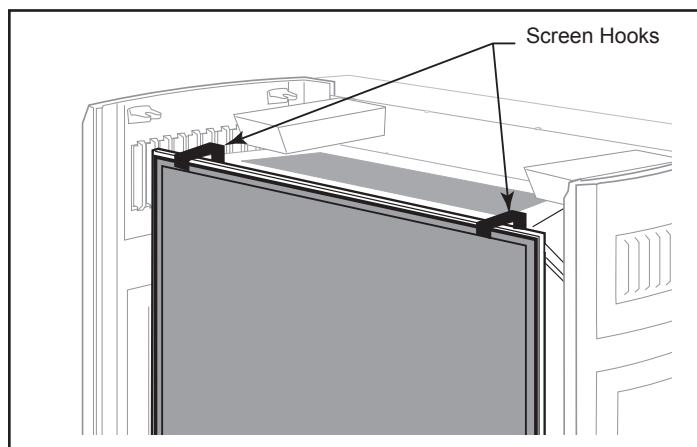

Figure 5 - Lift screen from firebox.
3. Remove the screen frame. (Figure 5)